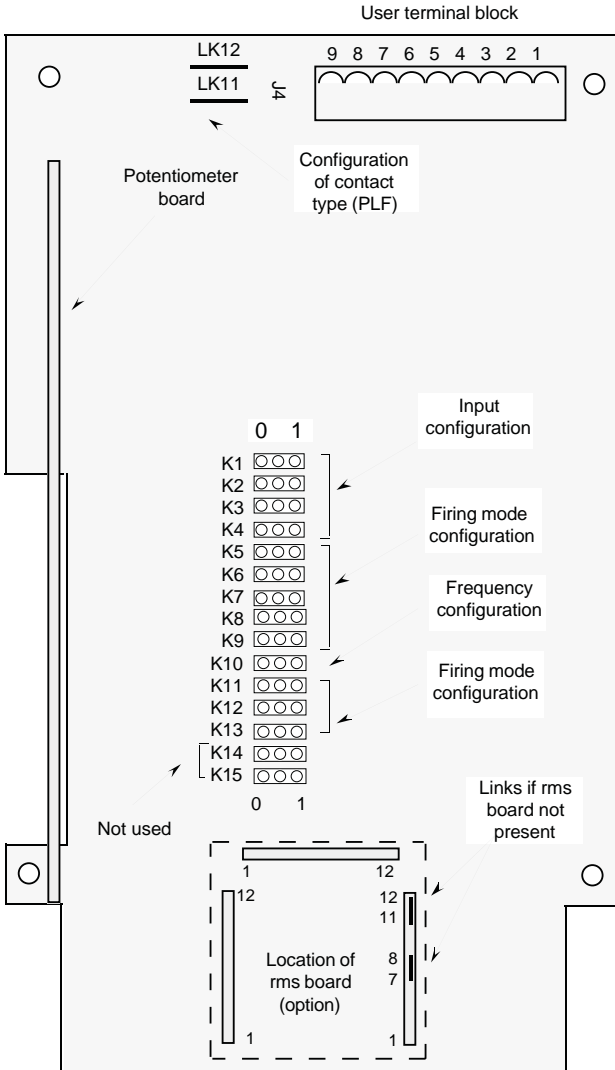

Figure 4-2 Location of configuration jumpers on driver board
Retransmission of the load current RMS value is achieved (except for 'slow cycle' burst-firing mode) by installing the 'RMS option board' on the driver board at the factory (see Figure 4-2).
**If the RMS option board has not been fitted** (thus the current retransmission and bargraph display use instantaneous values), **pins 11 & 12 and pins 7 & 8 must be short-circuited** using the jumpers provided (see Figure 4-2).
Soldered links LK11 & LK12 on the driver board are used to configure the contact type. The location of links LK11 & LK12 is given in Figure 4-2.